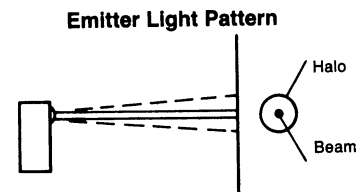

Fig. 10-23 Emitter (LED) light pattern. (Square D)
some switches to indicate reliable system performance. An unstable indication from the LED means that the light intensity level at the receiver is staying within +20% of the switch trip point, resulting in marginal switch operation (Fig. 10-23). Common situations causing such an indication include:
2. Switch misalignment, particularly when the emitter halo rather than the emitter beam is detected (Fig.10-23)